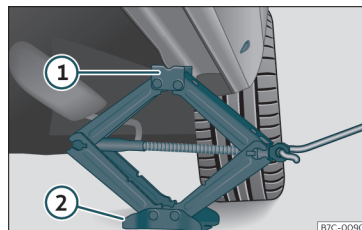

Fig. 39 Cross member: positioning the jack on the vehicle.
- Turn the jack* crank handle, located below the strut support point, to raise it until the tab ① >>> Fig. 39 is below the housing provided.
- Align the jack* so that tab ① "grips" onto the housing provided on the strut and the mobile base ② is resting on the ground. The base plate ② should fall vertically with respect to the support point ①.